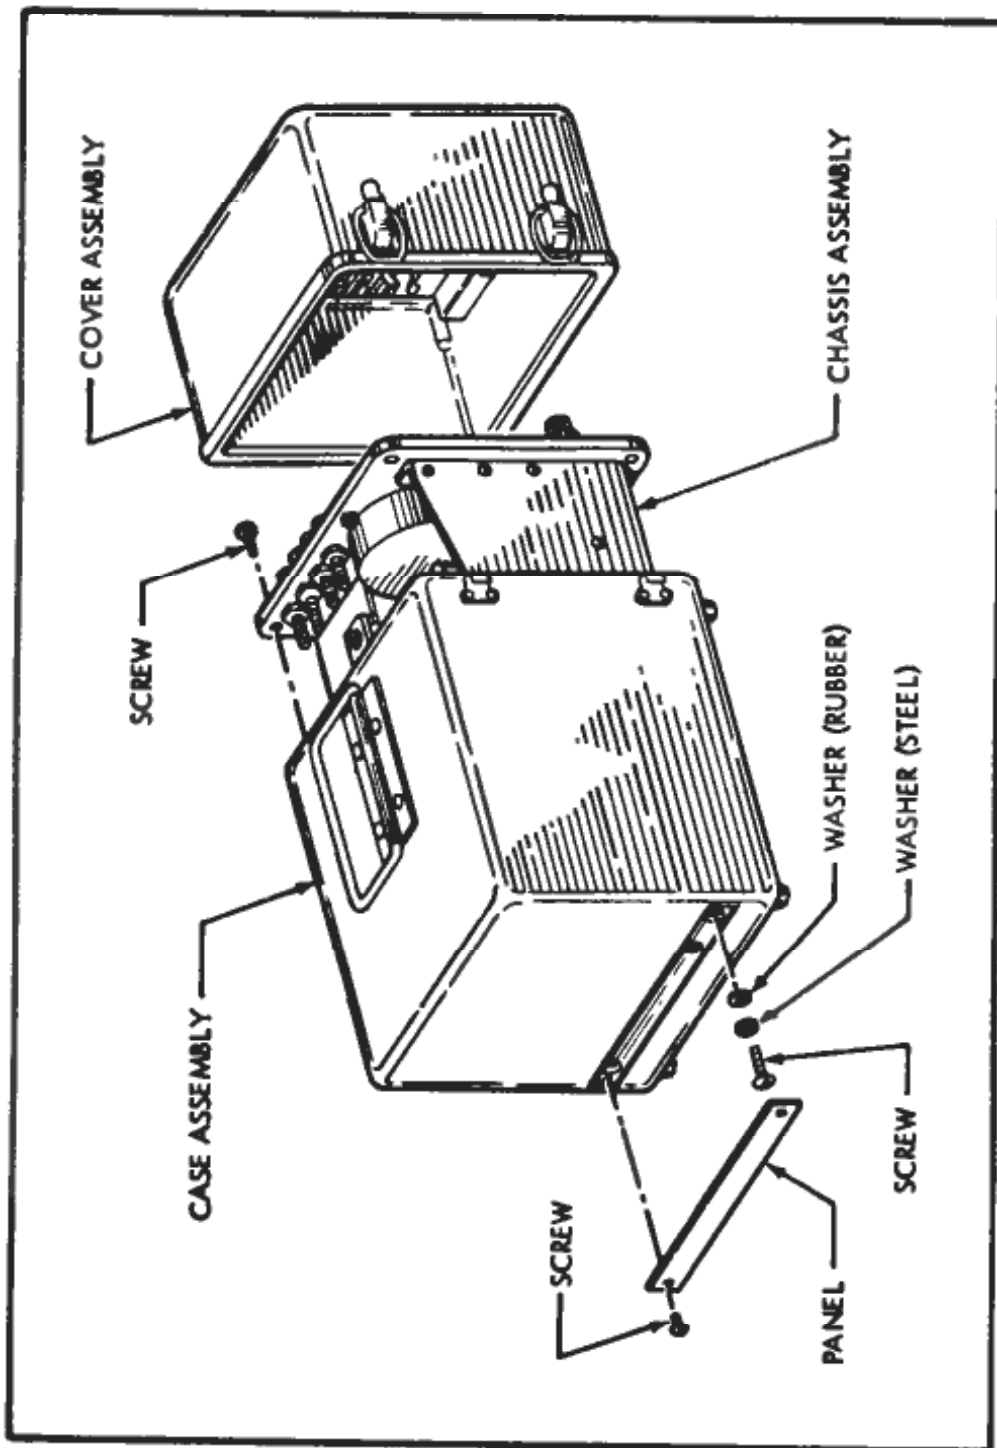

Figure 5-1. Electronic Multimeter AN/USM-116,
(1) Remove two screws (see figure 5-1) which secure the small panel to the back of the case assembly.
(2) Take out three screws securing the chas. to the back of the case assembly.
(3) Remove four screws, one of which is located at each corner of the control panel.
(4) Carefully pull case assembly away from the front panel and chassis assembly.